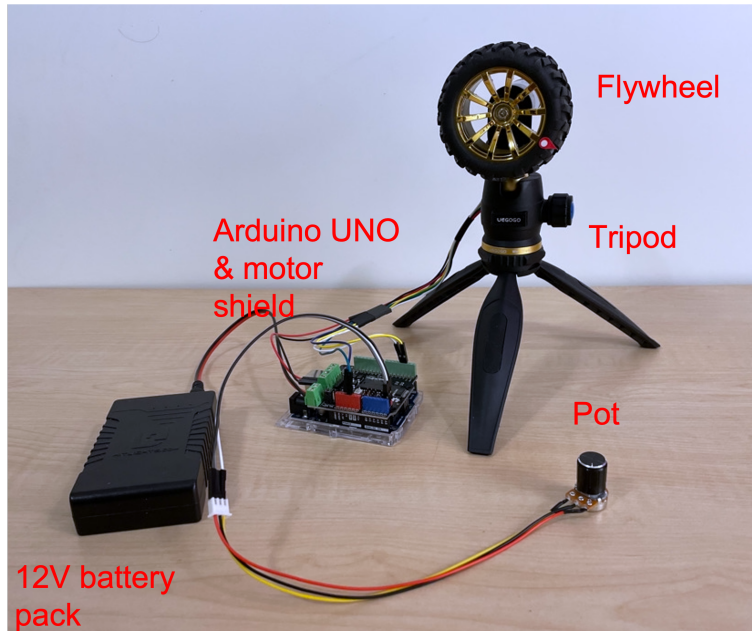

Figure 1: 2.004 DC Motor / Flywheel Plant.
1. Setup your DC motor/flywheel plant as shown in Fig. 1.